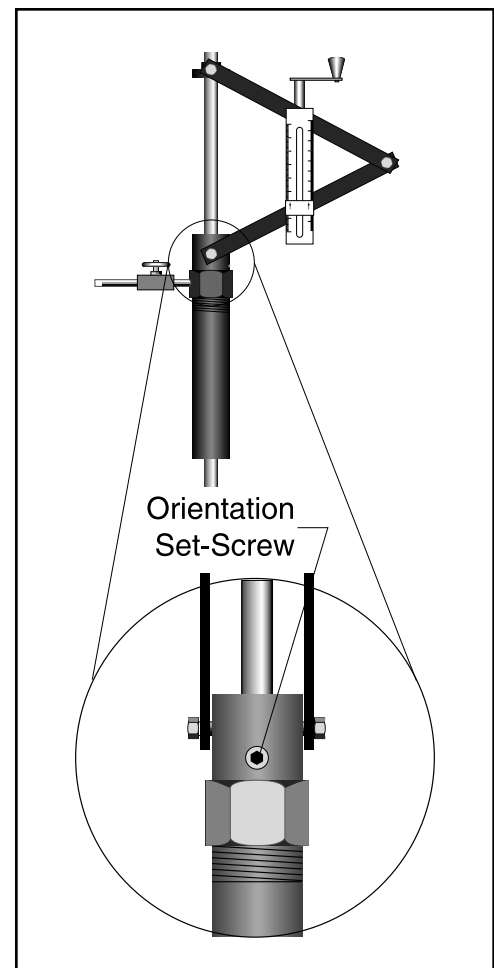

Figure 6-5. Orientation Set-Screw Location. To unlock the stem into position, loosen the orientation set-screw.
Step 2. Loosen the orientation set screw. (Figure 6-5)
Step 3. Loosen the junction set screw (Figure 6-5). For the temperature or pressure transmitter options remove the two